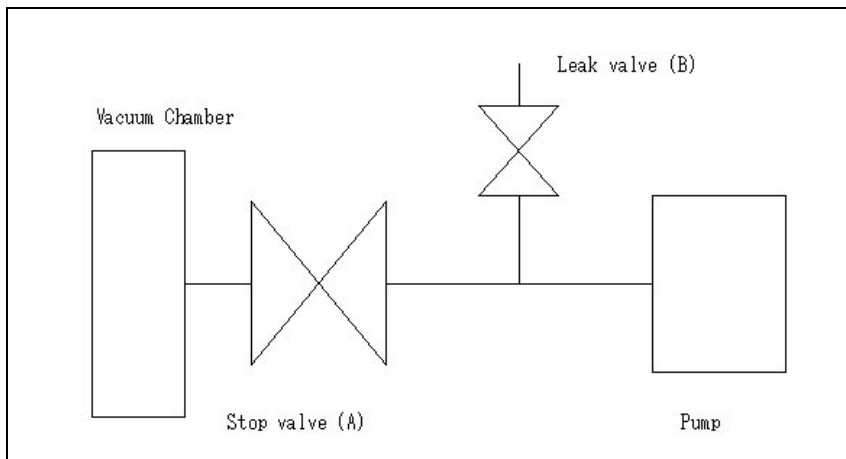

Figure 12 Inlet flange connection diagram
To stop operation, close vacuum valve (A), open leak valve (B) quickly, and turn the power switch to “OFF” (see Figure 12).